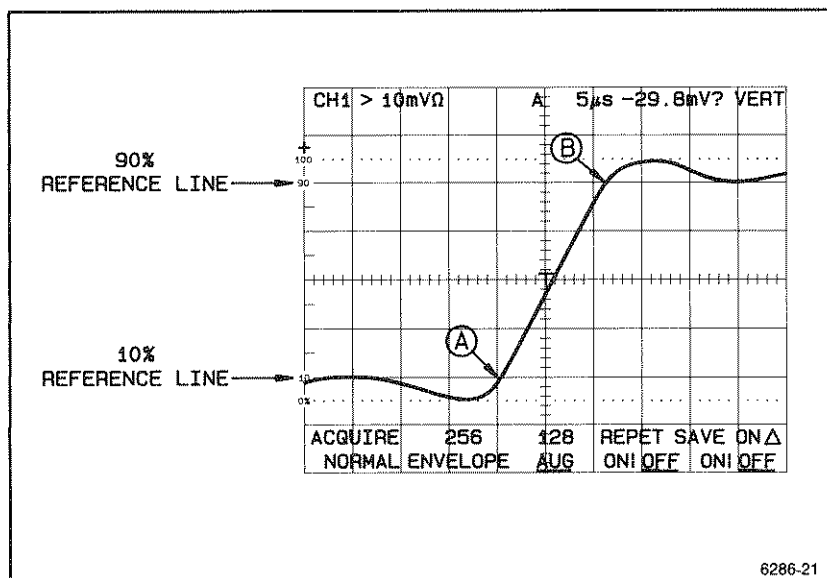

Figure 3-5. Rise time of a square wave (time duration).
5. Horizontally position the square wave so that the 10% point on the waveform intersects a vertical graticule line near the left side of the screen. (See point A of Figure 3-5.)
6. Count the number of horizontal divisions, including fractional divisions, between the 10% and 90% amplitude levels on the waveform. (See points A and B of Figure 3-5.) To determine the rise time, use the following general formula for time duration measurements:
EXAMPLE: Figure 3-5 gives the SEC/DIV control setting as $5 \mu\text{s}$ for the A time base. Counting the number of divisions between the 10% and 90% graticule lines (marked as A and B in diagram) yields 2.2 divisions. Substituting these values into the above formula yields